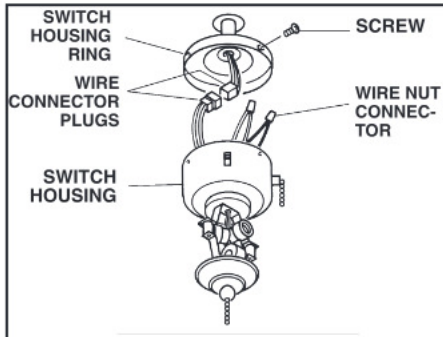
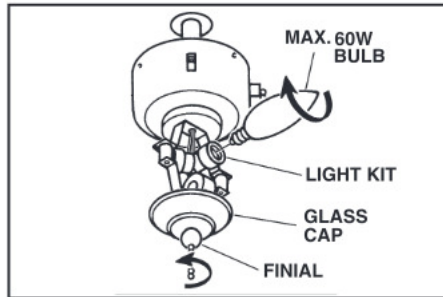

FIG. 19
FIG. 20
Step 3. Remove screws from the switch cup ring. While holding the switch housing under your fan, snap the wire connector plugs together. (Fig. 19). Then push the switch housing up to the switch cup ring and position it so holes line up. Secure with screws previously removed and securely tighten. (Fig. 20)
Step 5. Remove the finial, knurled nut, metal washer and rubber washer from the light kit. (Fig. 20)